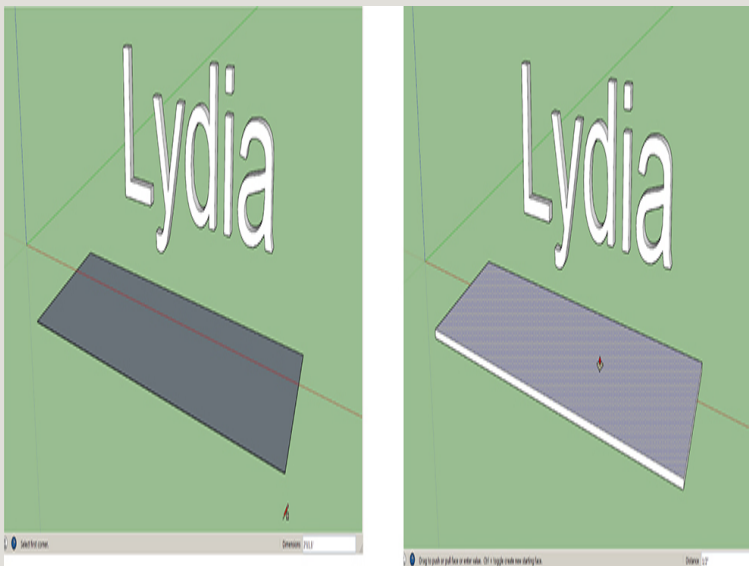

Figure 3-15 Use the Rectangle tool to make a face; then give it a thickness.
2. Make the stand (Figure 3-15). With the Rectangle tool, make a rectangle slightly bigger than the text. You can eyeball the size or type it, but in this case, type **2'11,1'** to make a rectangle 2'11" long and 1' wide. Remember, there are no spaces between any of the characters. The reason for this overly large size is that it's similar to the default size of the 3D text. We'll scale the model down to an appropriate size when we're finished. The space in between the rectangle's edges should darken, indicating that it's a face. If it doesn't darken or highlight when you try to select it, there's no face. Push/pull the face up 1/2" (type **1/2** or **.5**) to give it some thickness.